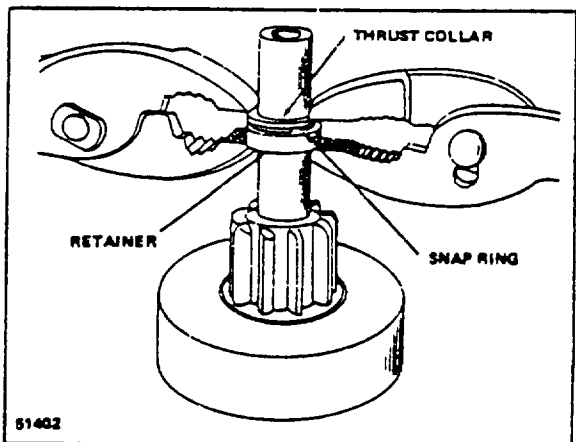

Figure 3-6. Forcing Retainer Over Snap Ring
- c. To force the retainer over the snap ring, place a suitable washer over the shaft and squeeze retainer and washer together with pliers (See Figure 3-6).